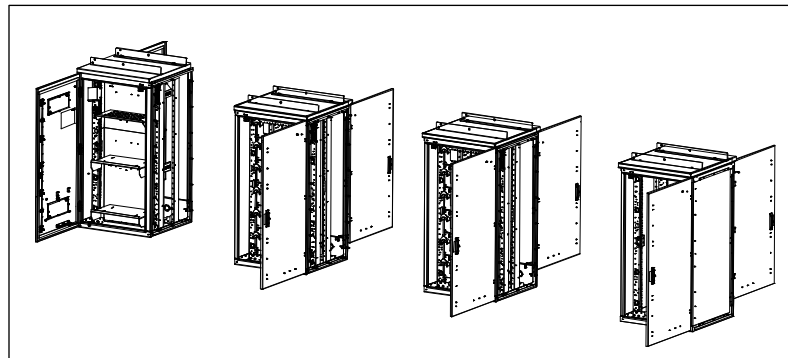

Figure 5 Separate Bays
4. Separate the bays (Figure 5).